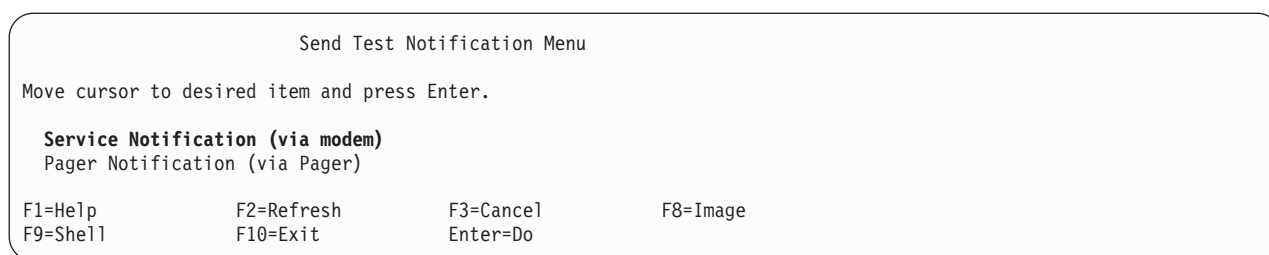
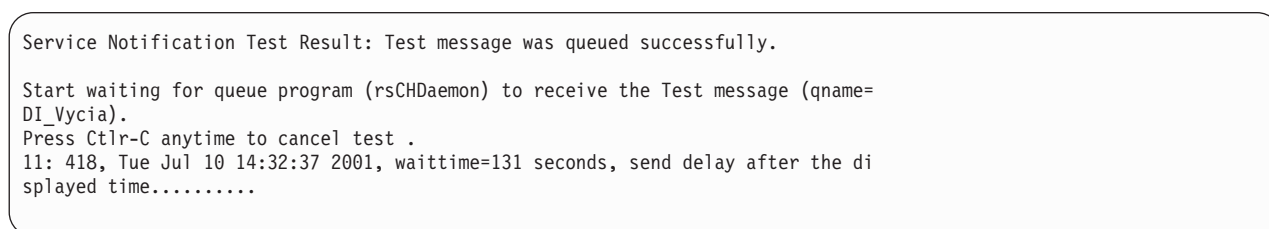

Figure 2-126. Send Test Notification Menu – Service Notification
Figure 2-127. Send Notification Test Result Menu – Waiting
- 1. Return to the tape system's Call Home / Remote Service Menu at the Library Manager EBTERM Service Screen (if available). To test a call home through the System Console, select **Send Test Notification Menu**, as shown at Figure 2-125. Press **Enter**. Figure 2-126 on page 2-91 displays.
- 2. At Figure 2-126 on page 2-91, select **Service Notification (via modem)**. Press **Enter**. Figure 2-127 on page 2-91 displays.